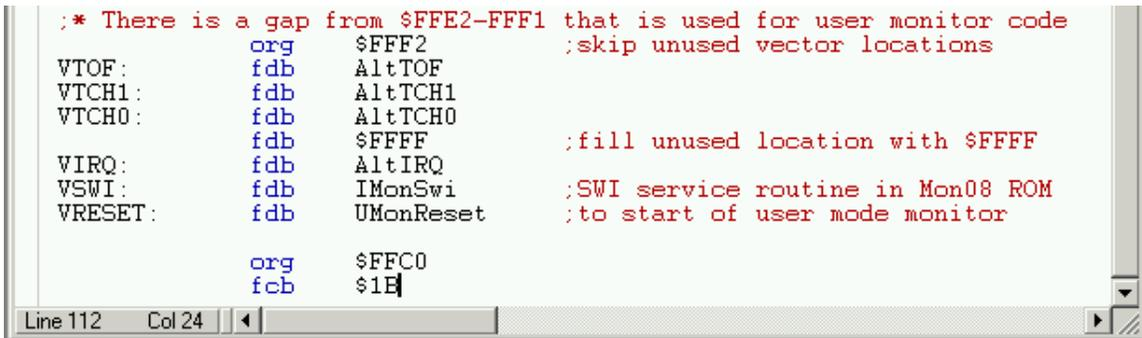

Figure 23. New Code Added at End of UserMonQT4.asm
23. Add 2 lines starting in column 15 with the following code. (Figure 23) (Replace trim value with the value you recorded earlier in this application note.)